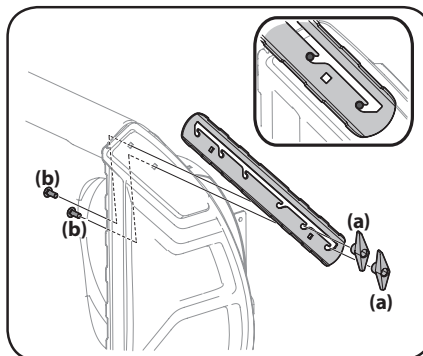

Figure 2-47
1. Remove two carriage bolts (a) and wing nuts (b) that secure each drift cutter, and remove them from the sides of auger housing. See Figure 2-47.
2. Turn the drift cutters around and position them as shown in Figure 2-47 to the outside of the auger housing.